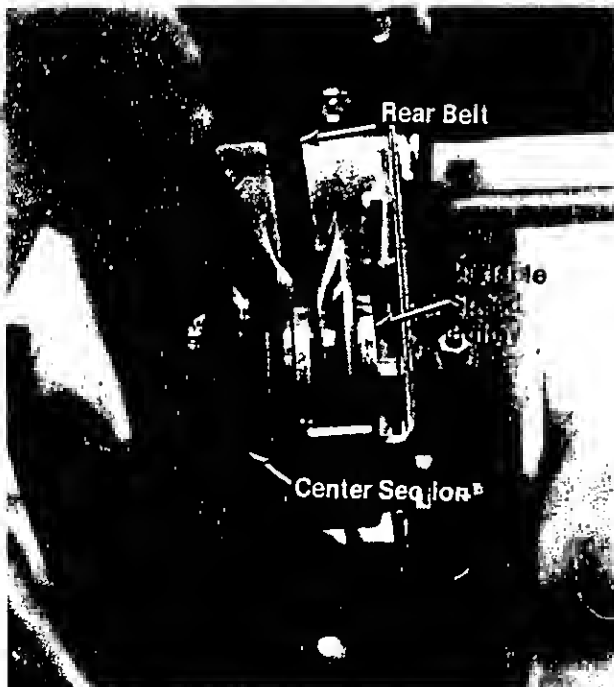

FIGURE 14.
9. Slide the center section of the variable speed pulley towards the right side of the tractor and remove the front belt. See figure 14.